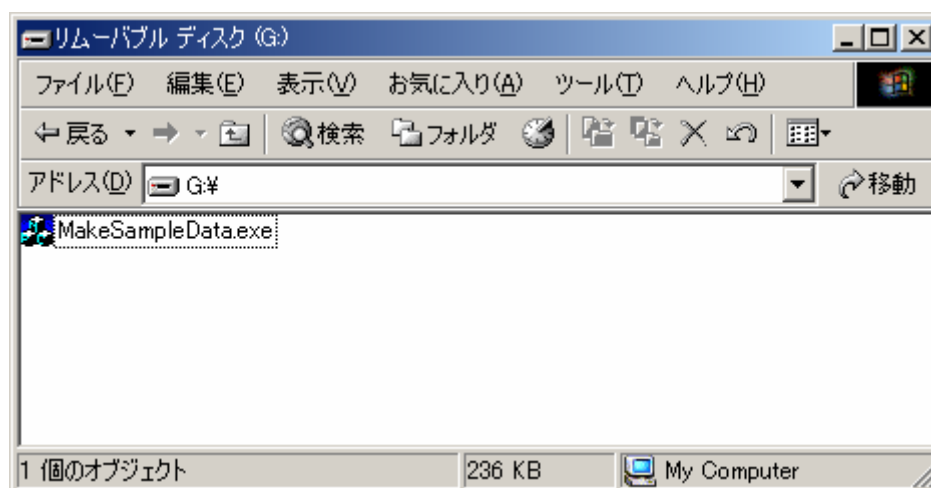

Fig. 3-1 Copying MakeSampleData.exe
2. Connect the microSD card provided in the evaluation kit to a PC USB port using the USB adaptor for microSD card also provided in the kit. Copy the downloaded tool “MakeSampleData.exe” to the micro SD card, as shown in Fig 3-1.